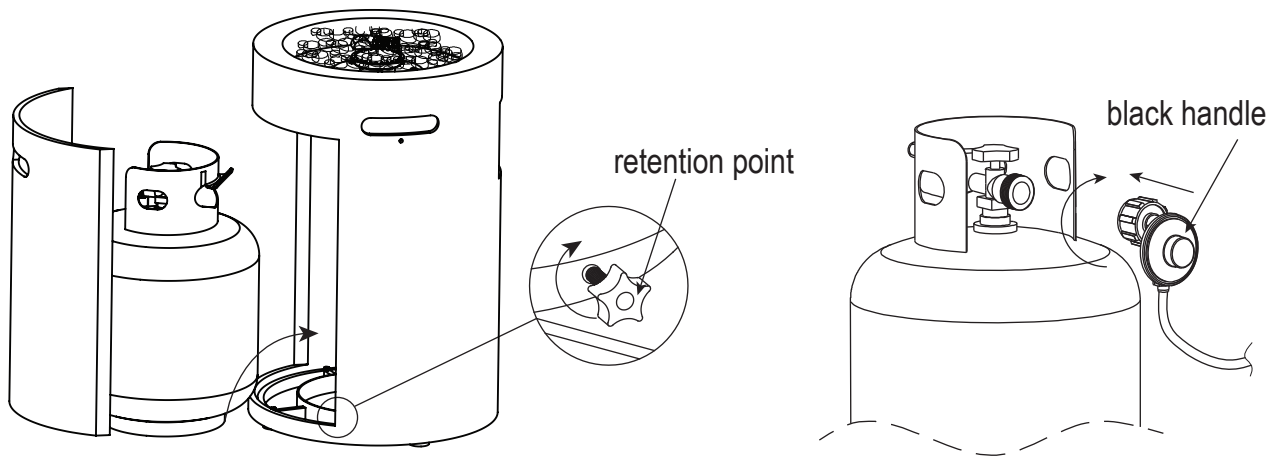

Figure 3
3. Place the gas cylinder into the cylinder holder. Secure the cylinder by tightening clockwise the retention point found on the cylinder holder, so that the cylinder cannot move from side to side or fall down. Connect the regulator, screw the black handle clockwise to tighten, turn the black handle counterclockwise to remove. The hose must not turn upside. The knob on the control panel is turned all the way to the "OFF" position when the fire pit is NOT in use (See Figure 3).